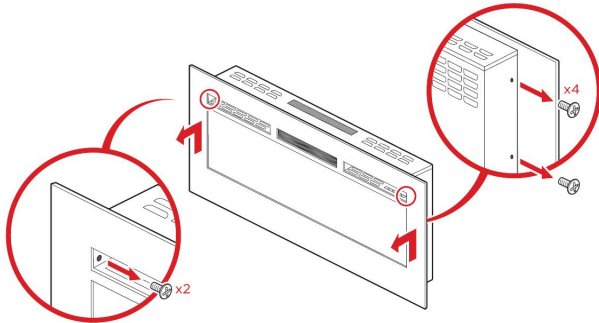
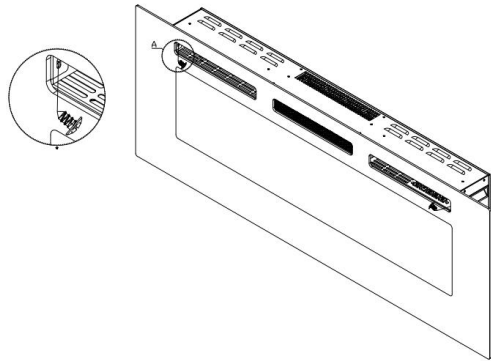

Fig.1
Fig.5
**Installation (see Fig1 ~ Fig 5)**
- Remove four silver screws from the sides of the heater, two screws on each side. Remove two screws from the front of the heater. Remove the tempered glass by lifting it from the lugs on the sides. see Fig.1
- Fix the tempered glass with 2pcs of 4\*8mm screws provided.(Fig.5)